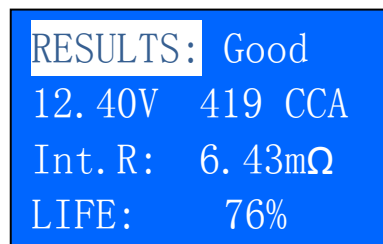

Figure 68
4. Press  key will proceed to display the last test results depending the type of test you had performed earlier. (Fig. 68)